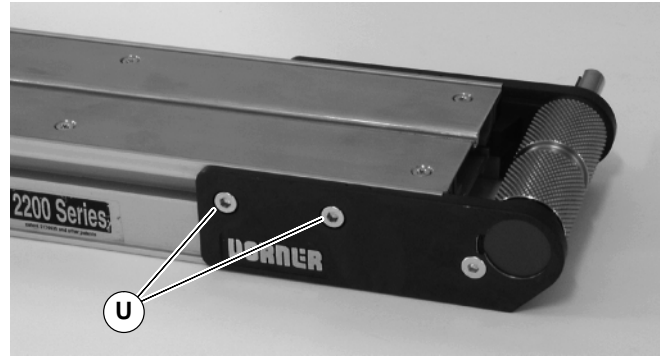

Figure 41
3. Install pulley assembly on conveyor. On both sides of conveyor tighten fastening screws (U of Figure 41) to 7 Nm.